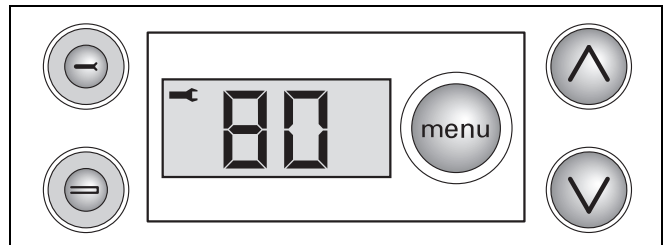

fig. 54 DBA with open-end spanner
- Set the boiler to partial load by pressing the service button " \ominus " once. A symbol of an open-end spanner " $\omin�$ " appears in the upper left hand corner of the display (see fig. 54).